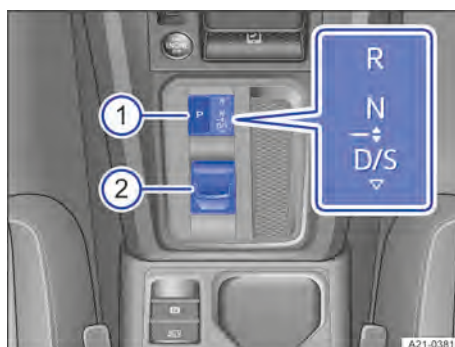

Fig. 94 In the centre console: selector lever for the automatic transmission with button for parking lock.
The selected position is shown on the instrument cluster display and on the lower part of the centre console when the ignition is switched on → Fig. 94.
1. Press the button  → Fig. 94 ①.
→ Fig. 94 ②.